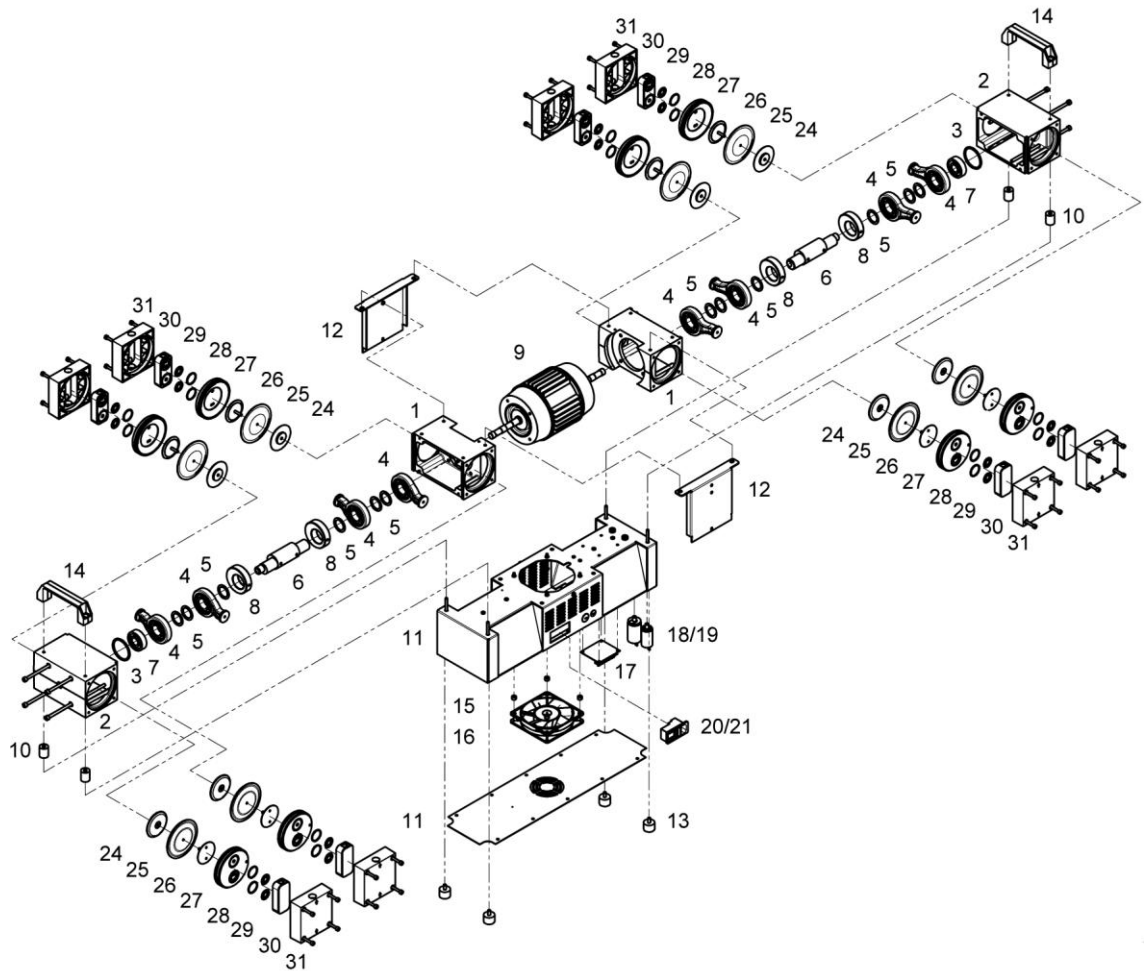

Fig. 6 Exploded view basic structure – diaphragm pumps MP/MPC 8-headed
3. Bring the connecting rod (see fig. 6) and the diaphragm **(7)** into the central position.